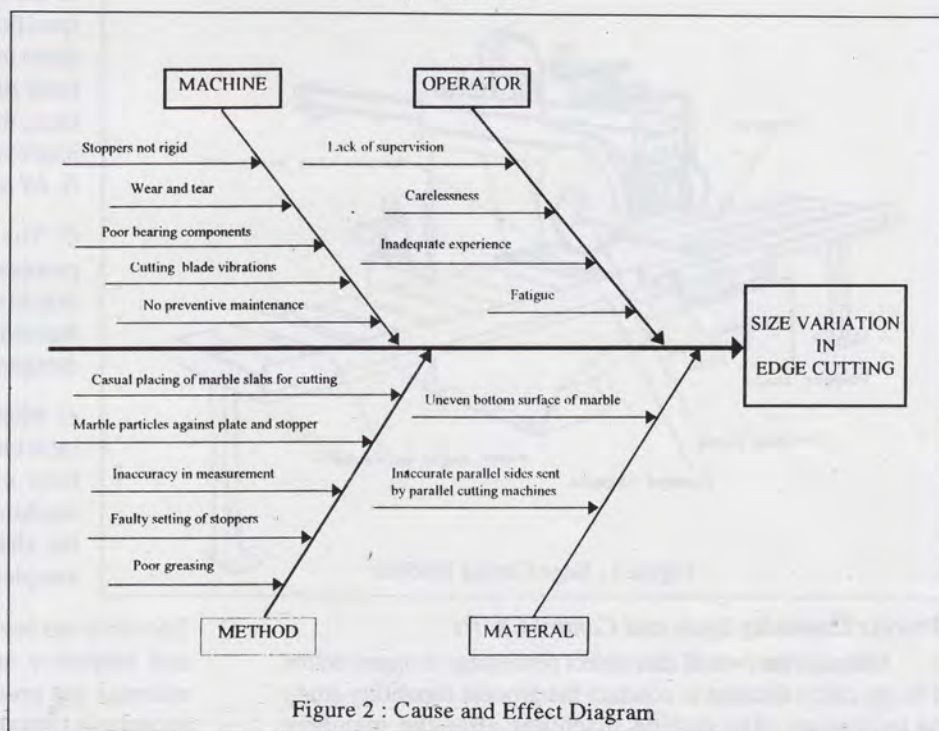
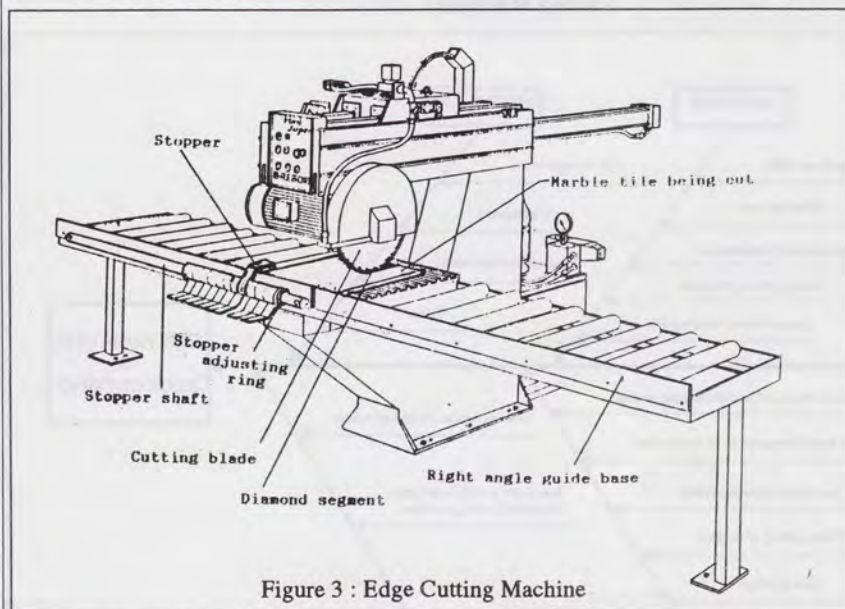

Figure 2 : Cause and Effect Diagram
Figure 3 : Edge Cutting Machine
- The reasons for the quality defects of the marble slabs in terms of their conformance with set specification were discussed in brainstorming sessions by the circle members. The members listed the various sub-causes and drew a cause and effect diagram. [Refer to Figure 2 : Cause and Effect Diagram]
- The circle members designed check sheets to collect daily data of 10 days in the course of their work to identify the present trend of quality defect in size. Percentage of defective size was as high as 4.36%. Likewise, quality defect occurrence in individual edge cutting machines (EC) was also pinpointed. Percentage of defect ranged from 0.25% in EC # 5 to 7.21% in EC # 8.
- The circle members decided that they would first tackle the problem of stoppers. Stoppers are devices set at specific points and are used as determinants in cutting marbles in specific sizes. On detailed study of the stopper devices used in the seven different EC machines, they were found to be vulnerable to pressures from marble slabs when set to cut. They had become loose, worn out and rusted. The members also observed that the operators were not always applying uniform firmness while setting the slabs against the stoppers. (Refer to Figure 3 : Edge Cutting Machine)